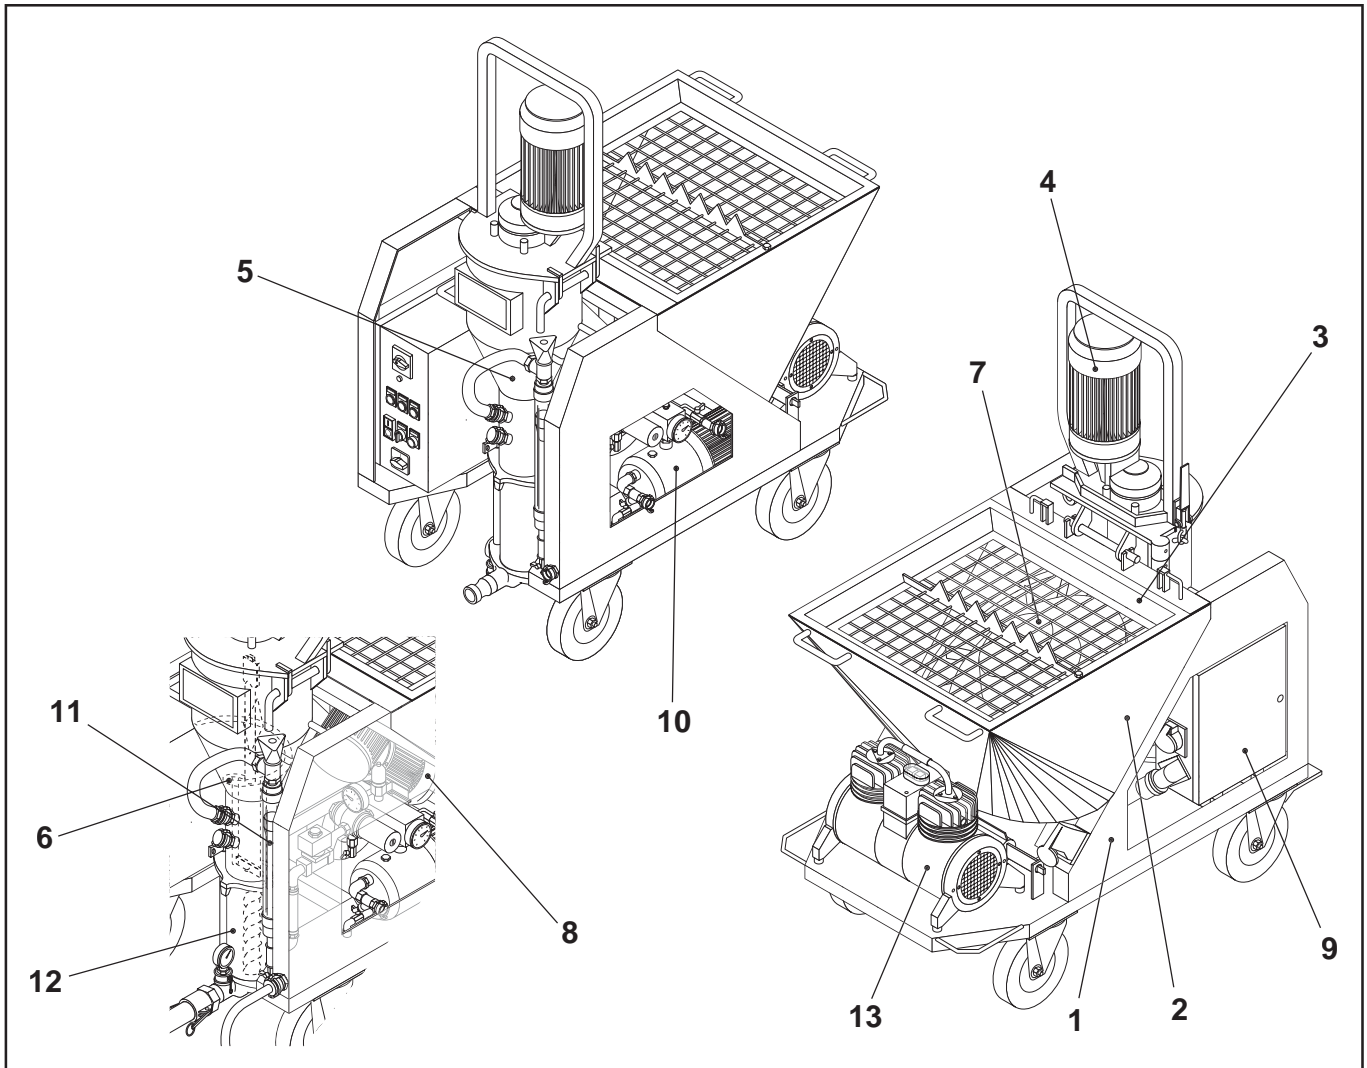

FIG.03
FIG. 03 shows and names the main components that make up the machine.
- Remove the protection grill (FIG. 03-REF.3).